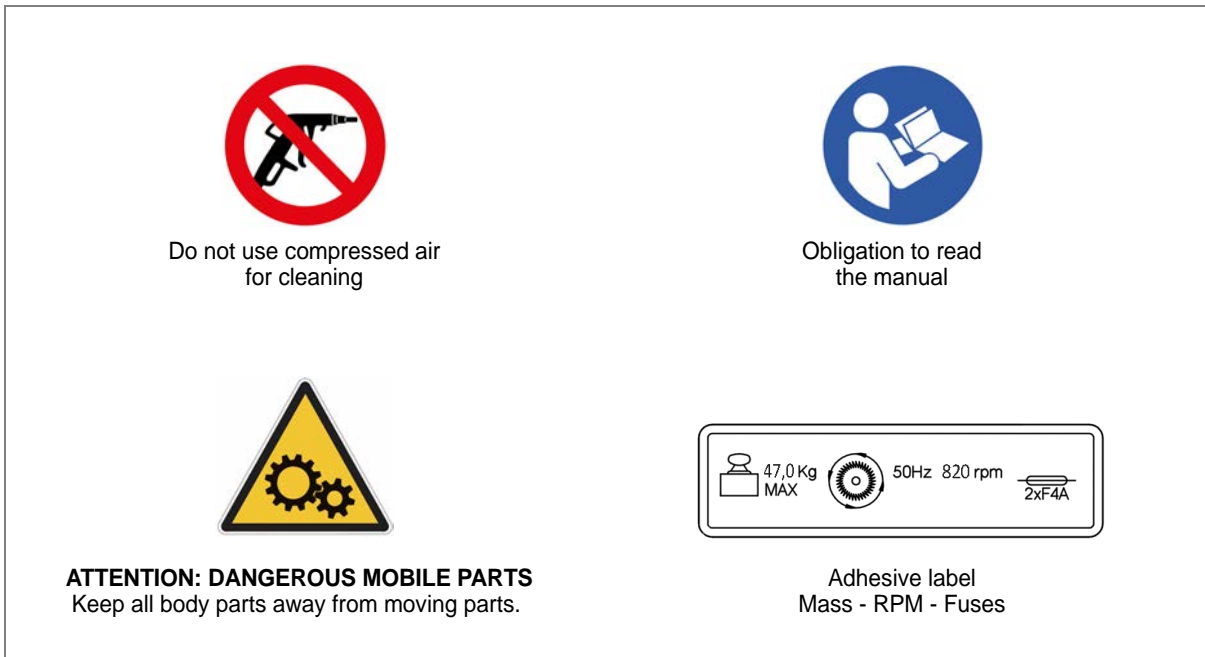

Fig. 16
- There are the following adhesive labels on the machine (fig. 16). This labels must never be removed.